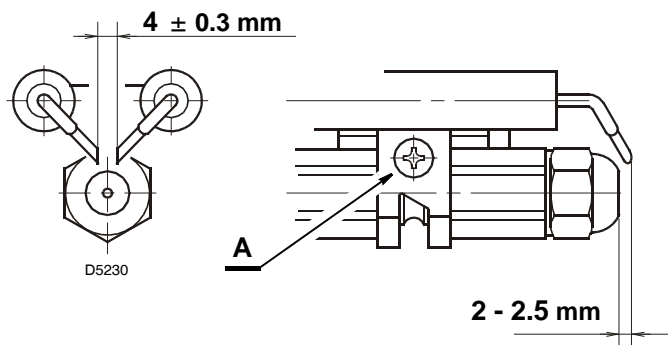

Fig. 20
- Hook the burner to the flange (1), by removing the blast tube (2) after loosing the fixing screws (3).
- Remove the electrodes assembly (5) from the nozzle holder (4) after loosing its fixing screw (A, Fig. 20 to page 21).
- Screw the nozzle (6).
Before removing or assembling the nozzle, loosen the screw (A, Fig. 20) and move the electrodes ahead.